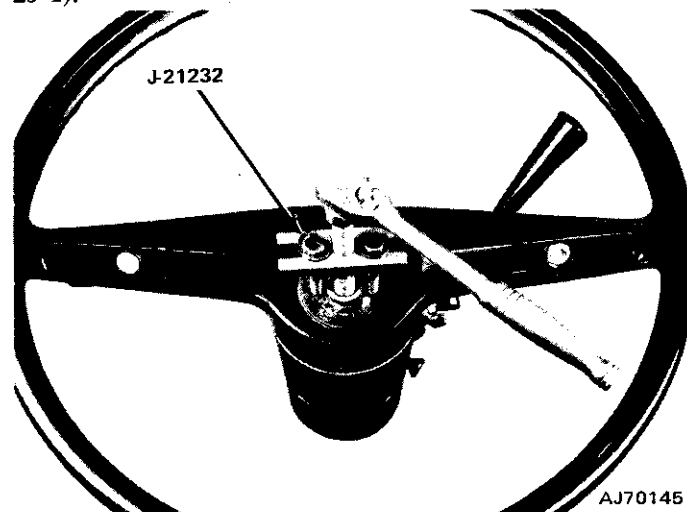

Fig. 2J-1 Steering Wheel Removal
- (1) Disconnect battery negative cable.
- (2) Place front wheels in straight ahead position.
- (3) Remove horn button. On models with standard steering wheel, rotate button until button lock tabs align with horn button receiver notches and pull button upward to remove. On models with sport steering wheel, pull button straight up to remove.
- (4) Remove steering wheel nut and washer.
- (5) Remove receiver bushing attaching screws and remove bushing.
- (6) On models with sport steering wheel, remove horn button receiver and contact plate. On models with standard steering wheel, remove boot from receiver and remove receiver and contact plate.
- (7) Paint or scribe alignment marks on steering wheel and steering shaft for assembly reference.
- (8) Remove steering wheel using Puller J-21232 (fig. 2J-1).